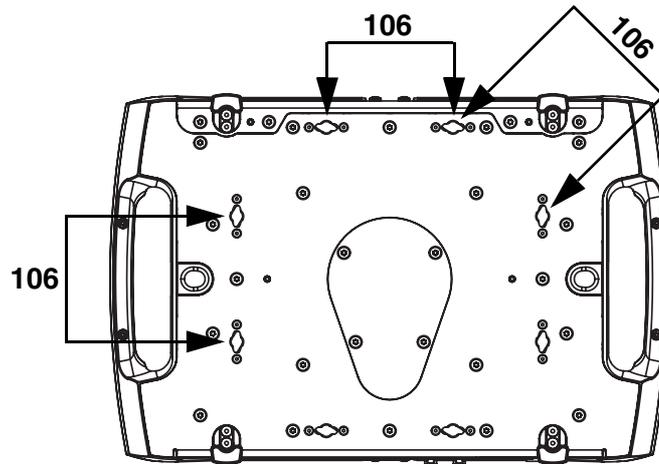
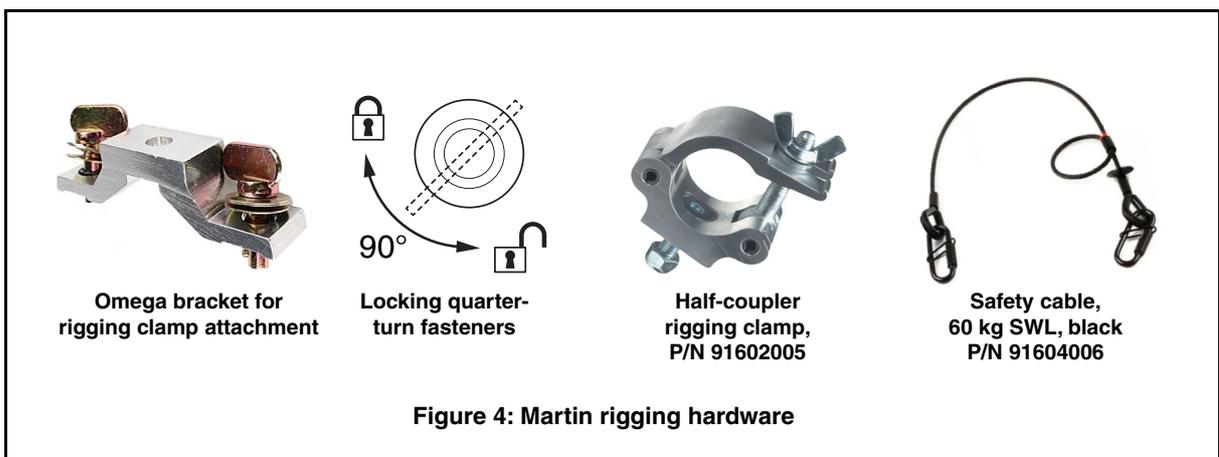

Figure 3: Omega bracket mounting points
Figure 4: Martin rigging hardware
The MAC Ultra Wash can be fastened to a surface such as a stage or clamped to a truss in any orientation using two omega brackets (see Figure 4) and rigging clamps. Clamps must be half-coupler type (see Figure 4) or equivalent type that fully encircles the truss unless the fixture is installed with the yoke hanging vertically downwards, in which case other clamp types that are approved for the supported weight may be used.
The four pairs of quarter-turn mounting points in the base accept 106 mm (4.17 in.) center-to-center omega brackets (see Figure 4) for rigging clamp attachment. The omega brackets can be fastened to the base parallel to the fixture's sides or diagonally (see Figure 3).
3. See Figure 3 on page 9. Align the first clamp and bracket with 2 mounting points in the base, and engage both the clamp bracket's quarter-turn fasteners in corresponding sockets in the base. See Figure 4. Turn the levers on the quarter-turn fasteners a full 90° clockwise to lock.